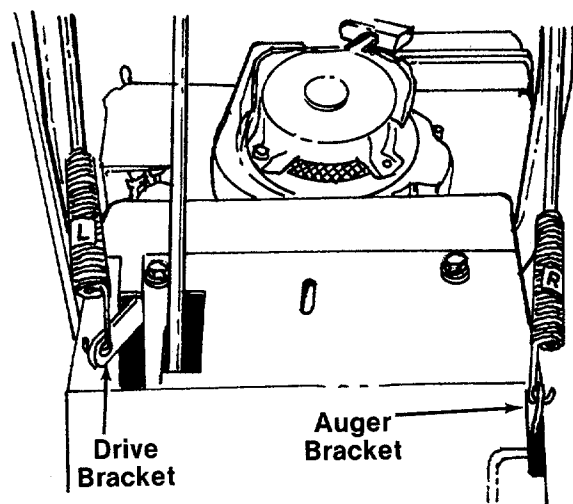

FIGURE 17.
Hook spring into drive bracket. See figure 17.
22. Adjust the right hand lockout rod in the same manner as the left hand lockout rod. Refer to Step 21. When adjustment is correct, hook the spring into the auger bracket. See figure 17.